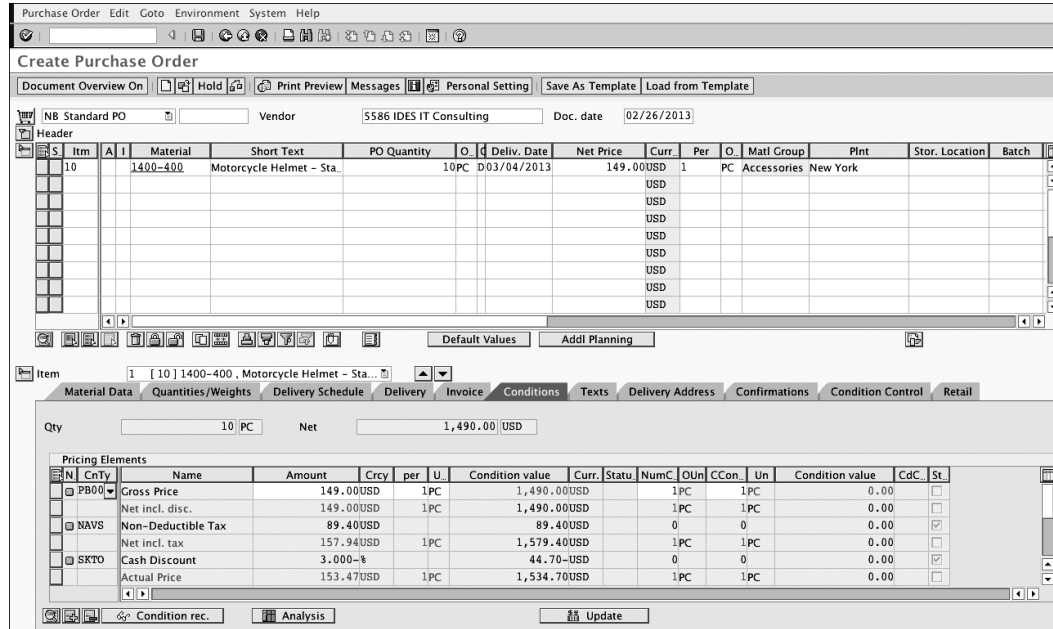

Figure 2.32 Non-Deductible Tax When the Conditions Are Fulfilled
5. When the combination of the values of these fields fulfills the condition record, the percentage and tax code are adopted by the purchasing documents and they are added to the total value of the order, as shown in Figure 2.32.